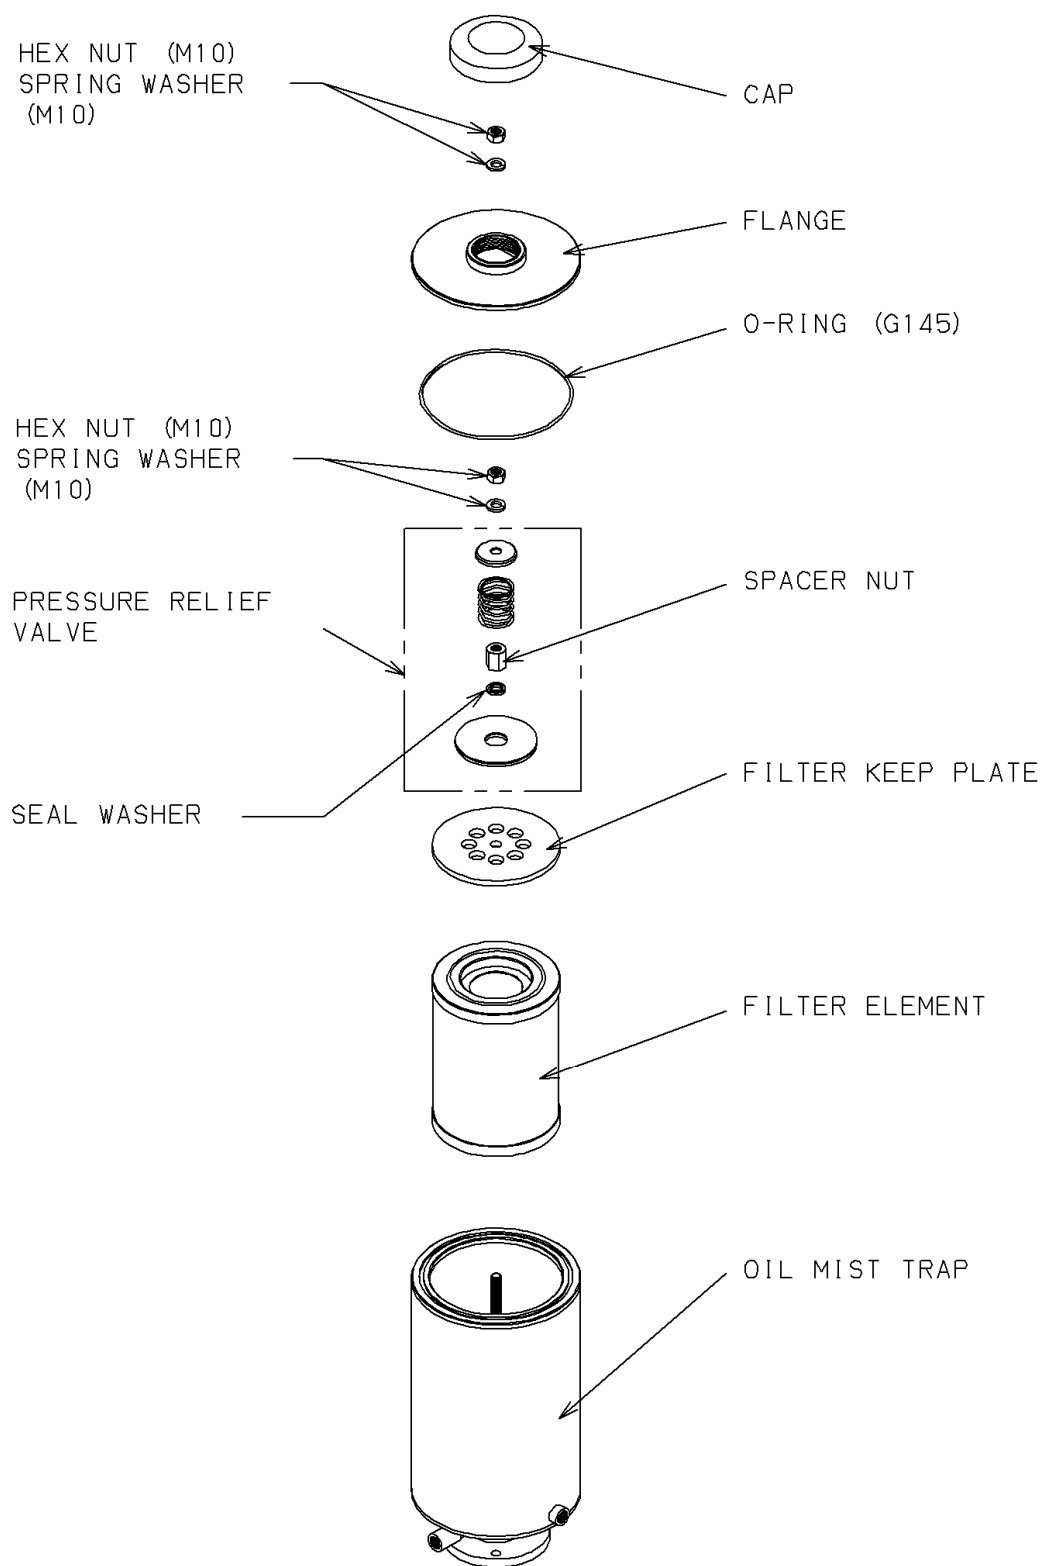

Fig.9 Exploded view of filter element
4.2 Replacing the Filter Element (Refer to Fig.9)